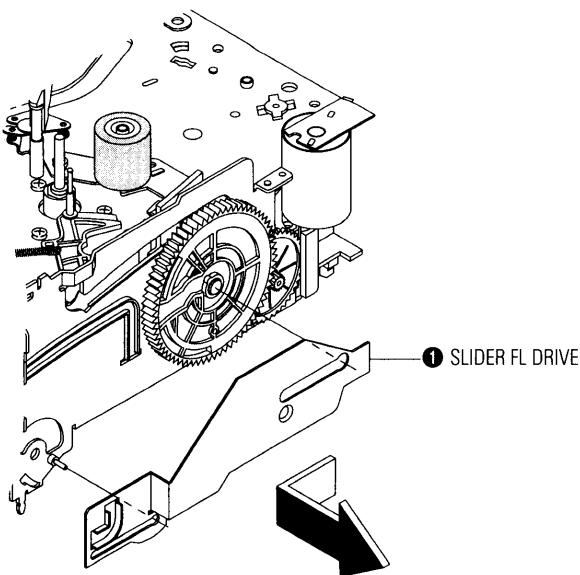

Fig. 4-13 Slider FL Drive Removal
- 1) Pull the Slider FL Drive ① to the front direction.
- 2) Remove the Slider FL Drive ① in the direction of arrow. (Refer to Fig. 4-13)